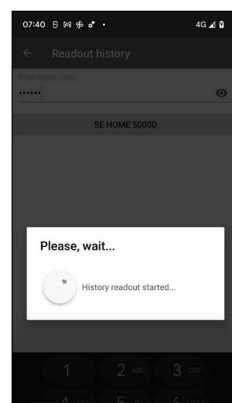

Fig. 92
- ⑦ The history data is now retrieved from the cylinder and stored in the app as a log file (Fig. 92).